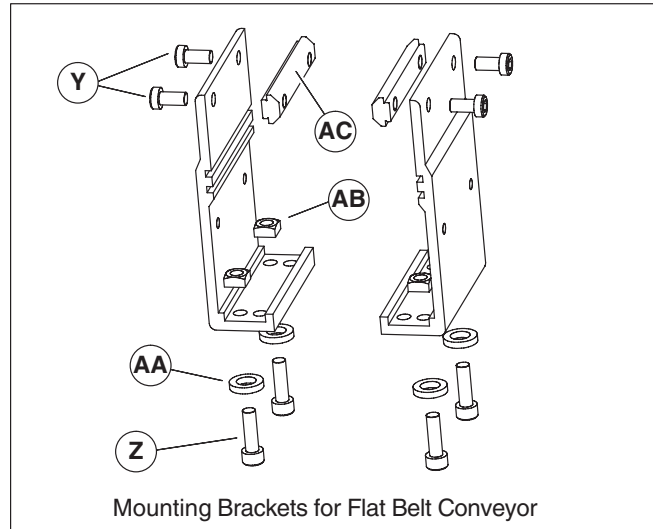
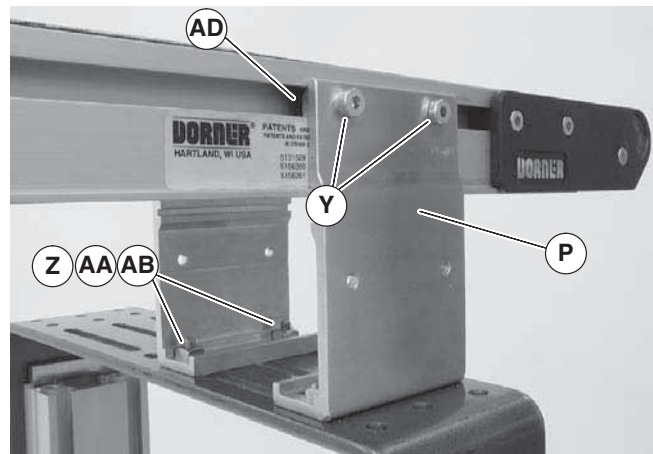

Figure 9
Figure 10
1. Locate brackets. Exploded views shown in Figure 9.
2. Remove screws (Figure 9, item Y & Z), washers (AA), nuts (AB) and T-bars (AC) from brackets.
3. Insert T-bars (Figure 9, item AC) into conveyor side slots (Figure 10, item AD). Fasten brackets (Figure 10, item P) to conveyor with mounting screws (Y).
4. Fasten brackets to support stand with mounting screws (Figure 10, item Z), washers (AA) and nuts (AB).
5. Tighten screws (Figure 10, item Y & Z) to 60 in-lb (7 Nm).